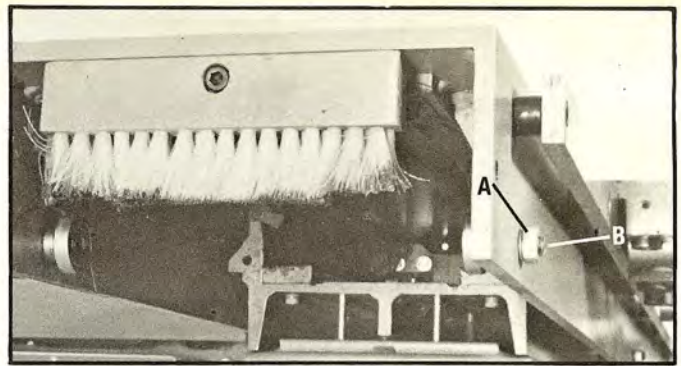

Fig. 22A
1. Loosen hex nut (A) Fig. 22A.
2. Turn slotted eccentric bearing shaft (B) Fig. 22A, until bearing just contacts sliding table track.
3. Hold eccentric bearing shaft (B) Fig. 22A, at this position with a screwdriver and tighten hex nut (A).